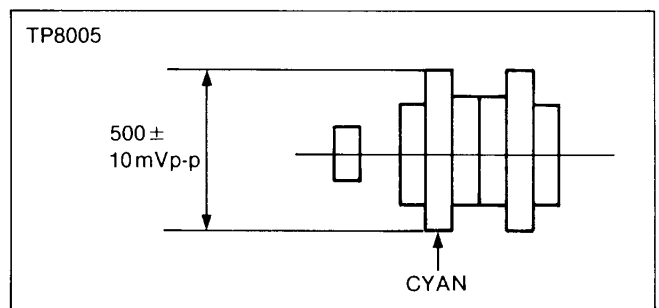

Figure E37
4. Adjust VR8001 for 500m +/- 10mVp-p at the cyan portion as shown in Figure E37.